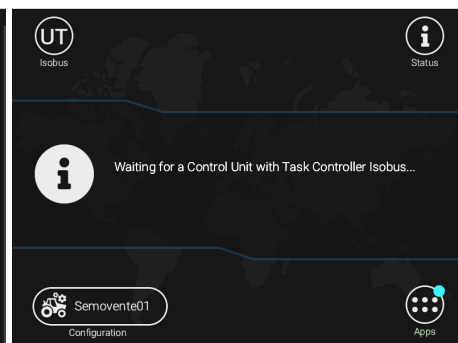
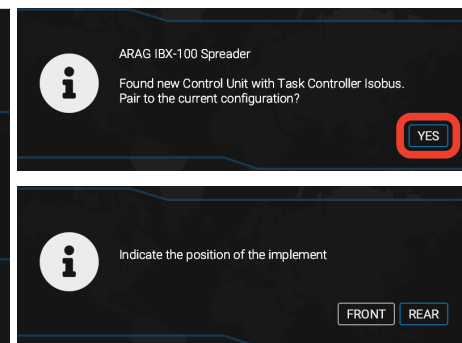

Fig. 38
Fig. 39
- Follow the instructions displayed (Fig. 38 - Fig. 39). The pairing will link the current configuration to the new control unit.